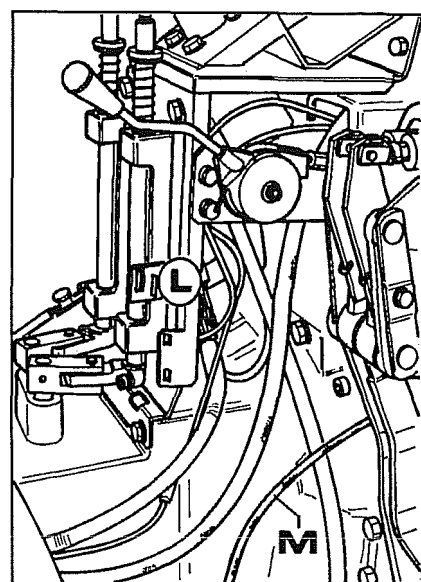

Fig. 10
6. Remove gear lever mount **L** Fig. 10 and disconnect accelerator pedal cable **M** from under the platform.